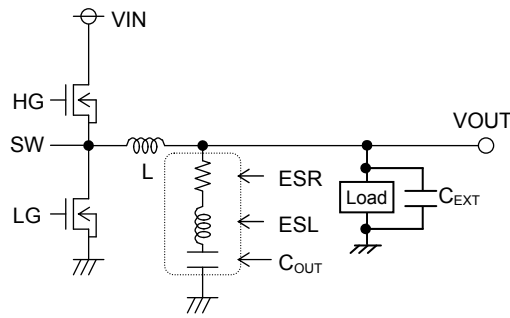

Figure.23 Output Capacitor
Also, give consideration to the conditions in formula (5) below for output capacitance, bearing in mind that output rise time must be established within the fixed soft start time. As output capacitance, bypass capacitor will be also connected to output load side (C_{EXT}, Fig.23). Please set the over current detection value with regards to these capacitance.